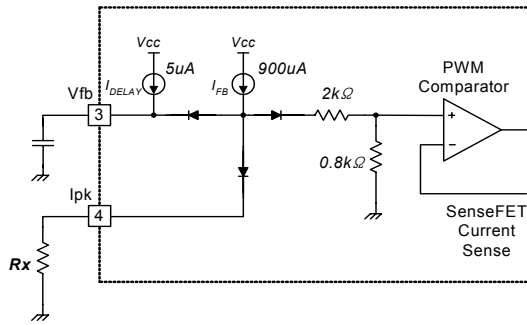

Figure 12. Peak Current Limit Adjustment
8. Adjusting Peak Current Limit : As shown in Figure 12, a combined 2.8kΩ internal resistance is connected to the non-inverting lead on the PWM comparator. A external resistance of Rx on the current limit pin forms a parallel resistance with the 2.8kΩ when the internal diodes are biased by the main current source of 900uA.